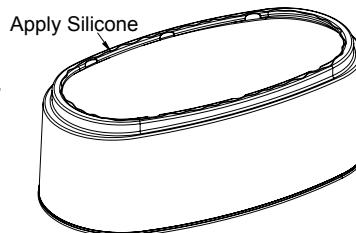

Fig. 7
- 1** After locating the drain alignment kit, electrical, and water supply lines with the supplied template (Modena™ only), use a marker to trace the inside footprint of the skirt in the location where the bathtub will be placed. Add silicone only to the bottom of the skirt and place back in the marked area (Fig. 7).